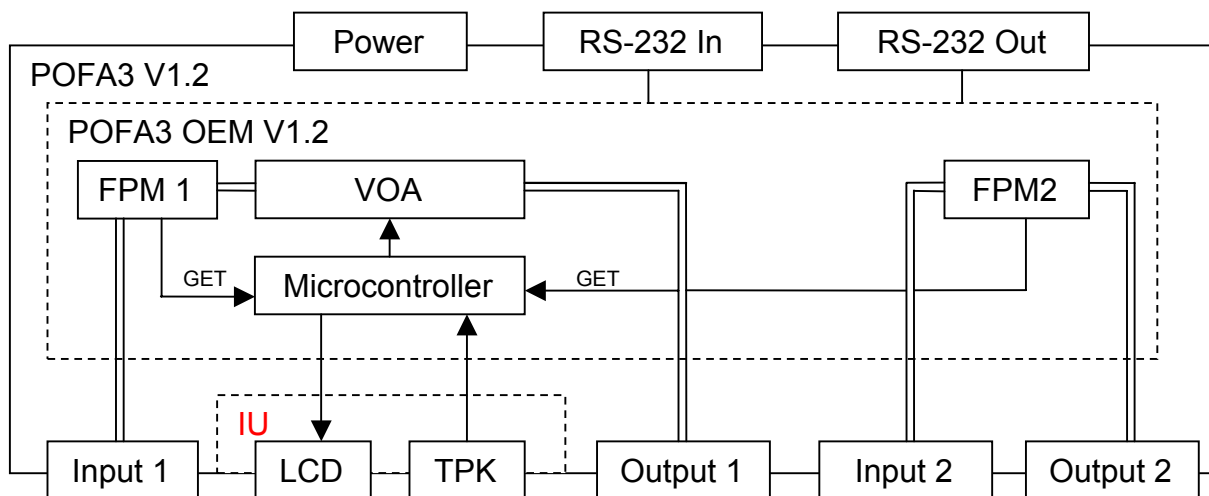

Figure 3: Function block diagram
POFA3 is composed of the attenuator, a fiber power meter (FPM), a microcontroller and a power supply (Fig.3). The light goes from the input connector through FPM and attenuator to the output connector. The attenuator consists of a variable rotated filter and precise rotated actuator. The interface unit (IU) attends to the user interface, the POFA control and the remote communications. The IU is composed of a LCD and a turn/push knob.